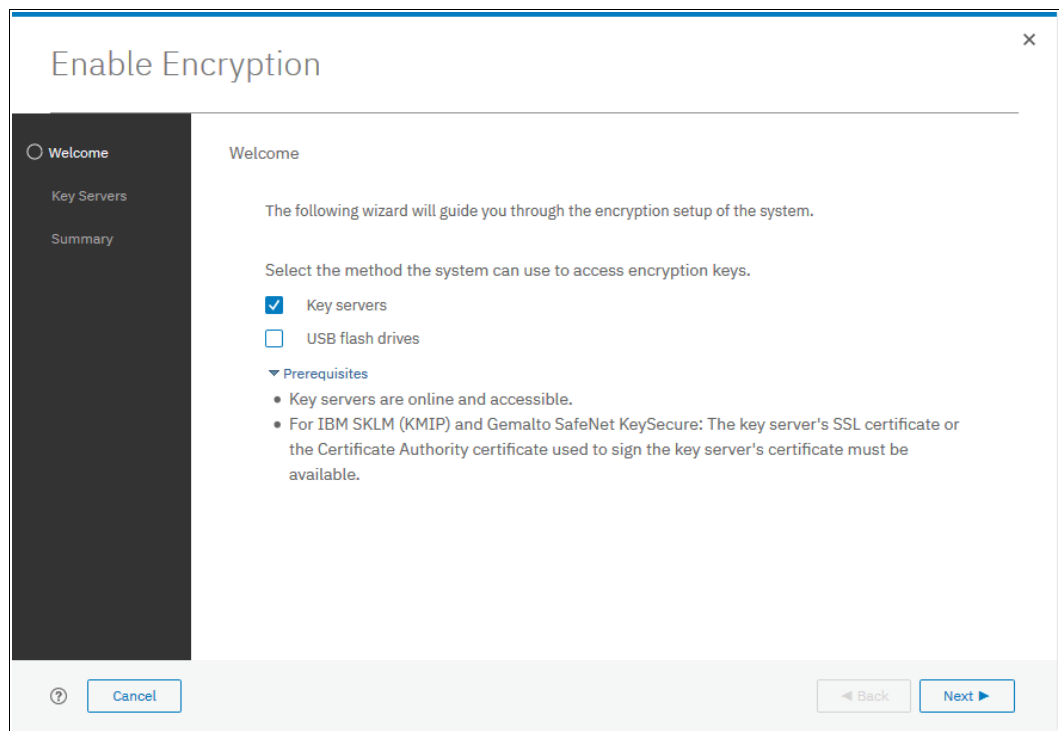

Figure 13-30 Selecting Key server as the only provider in the Enable Encryption wizard
2. In the Enable Encryption wizard Welcome tab, select **Key servers** and click **Next**, as shown in Figure 13-30.